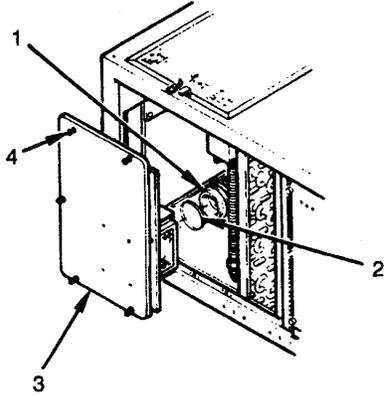

Figure 4-23. Left Front Evaporator Panel Installation
- f. Install Left Front Evaporator Panel. Connect hose (1), tighten clamp (2), install panel (3), and tighten five captive fasteners (4) (see Figure 4-23).